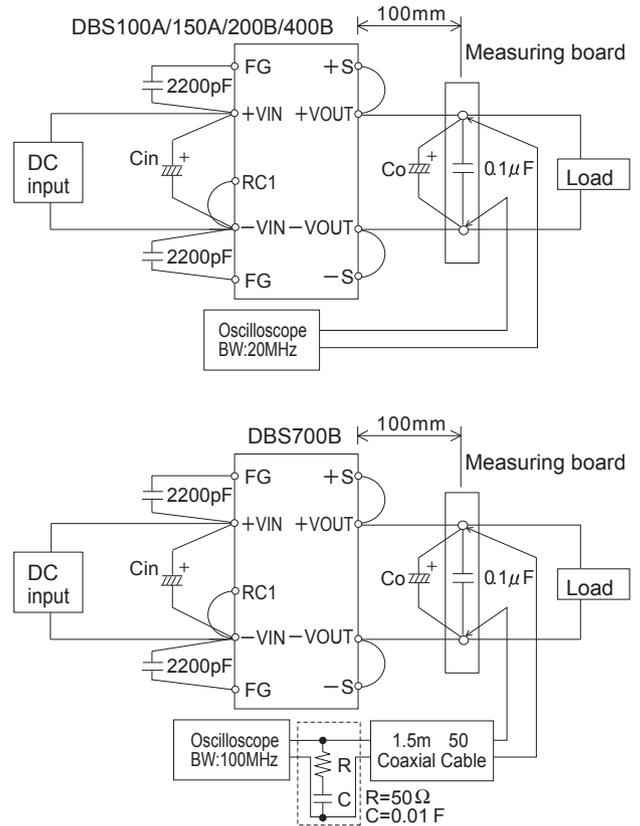

Fig.2.5 Method of Measuring Output Ripple and Ripple Noise
■ The specified ripple and ripple noise are measured by the method introduced in Fig.2.5.